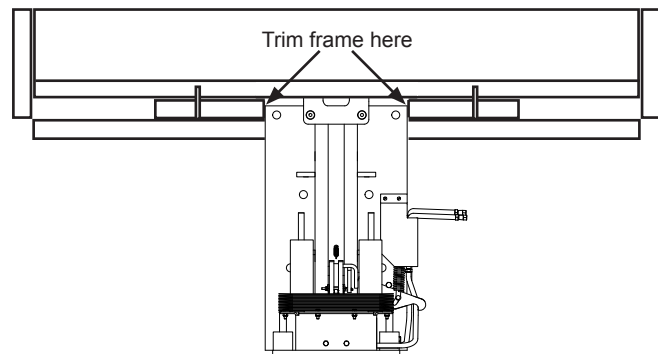

Figure 12
**Note:** Trim or cut leveler front frame member as shown in Figure 12 when necessary to allow for pit floor mounting plate.